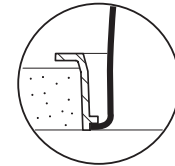

Fig. 4
2. For flangless trim installation (Fig 4), **White Trim Ring** is not required.
2. For flangless trim installation (FIG. 4), **White Trim Ring** is not required.